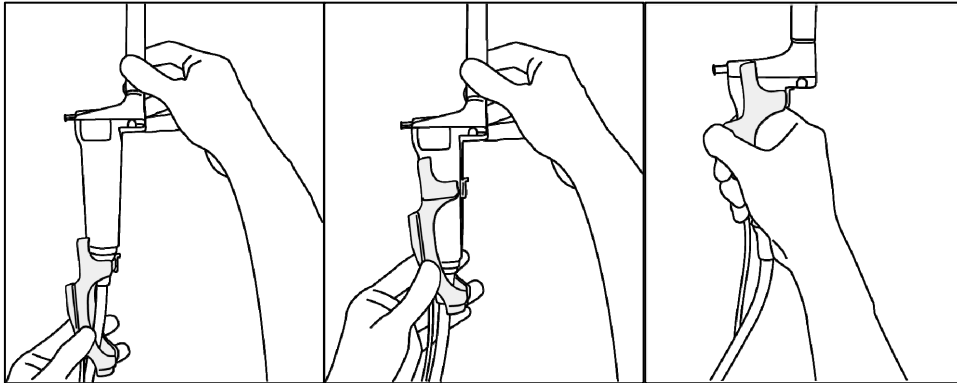

Fig.14 How to attach the Magnetic sensor attachment
c) Attach the Magnetic sensor attachment to the probe as shown in Fig.14.